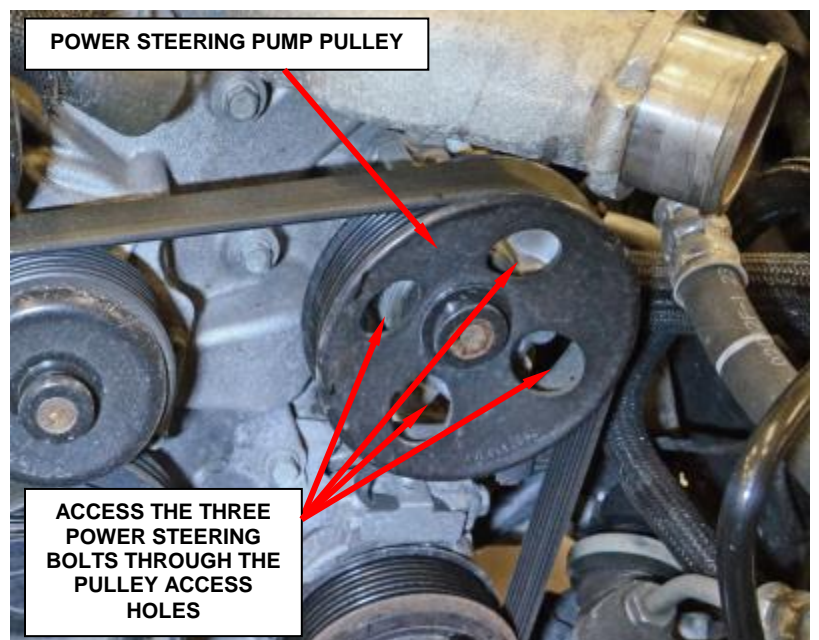

Figure 20 – Power Steering Pump
19. Remove and save the three bolts that secure the power steering pump and remove the power steering pump. **Do not disconnect lines, position aside** (Figure 20).